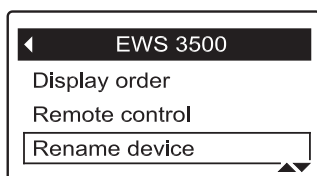

FIG. 120
2. Press the remote's SELECT (O) button to display the device menu.
3. Press the DOWN (▼) button to scroll through the menu options until **Rename device** is highlighted in a box (See Figure 120).
8. Press the SELECT (O) button. The character you picked is added to the upper line.
9. To select the next character, return to Step 7. When finished entering the device name, press the UP (▲) button to switch to the upper line, then press SELECT (O) to go back to the device menu (Figure 120).